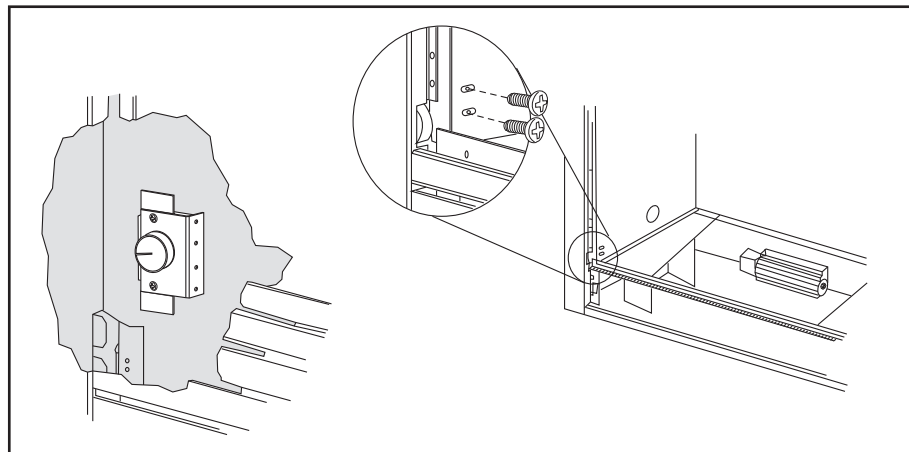

Figure 8
2. Position the blower switch assembly in lower left corner of unit as shown in Figure 8
3. As you hold switch assembly in place, secure unit with two (2) screws provided. Figure 8